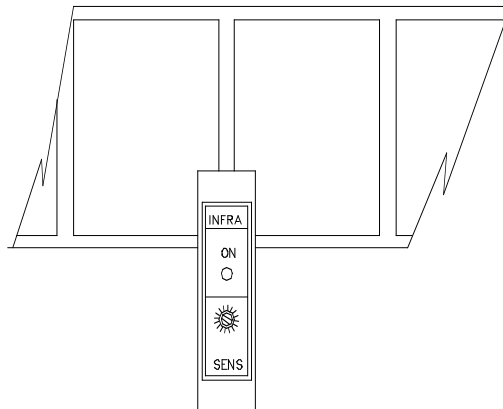

FIG. 8
- b) Put the space between the labels in the photocell detection area (photocell centre line), Fig. 8